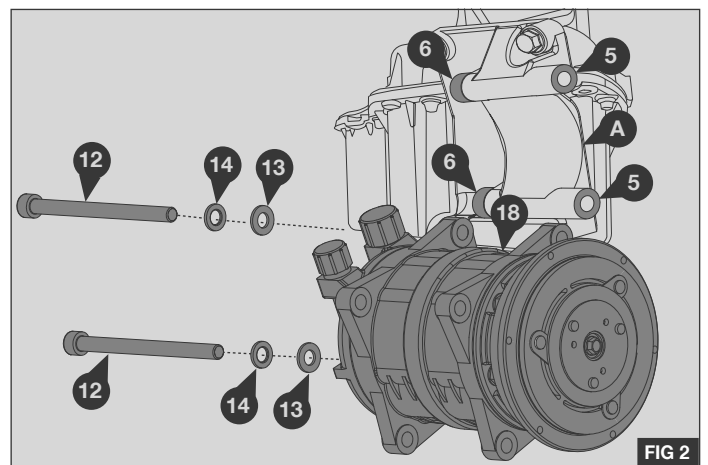

FIG 2
1. Mount a compatible compressor ⑱ specified on page 5 to the original manufacturers mount bracket A, using 2 x 8.4 MM Spacers ⑥ between the rear ears of the compressor and the back mounting face of the mount bracket A, 2 x 1.5 MM Spacers ⑤ between the front ears of the compressor and the front mounting face of the mounting bracket A, 2 x M10 x 130 bolts ⑫, 2 x flat washers ⑬ and 2 x Schnorr safety washers ⑭ - Fig 2